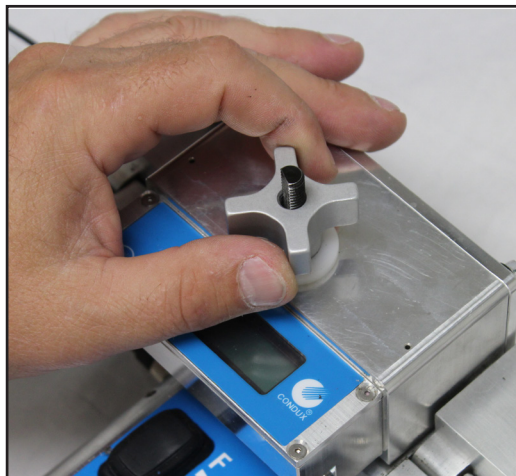

Figure 27. Raise Tractor Drive
1. Raise tractor drive by loosening tractor drive down knob (See figure 27).